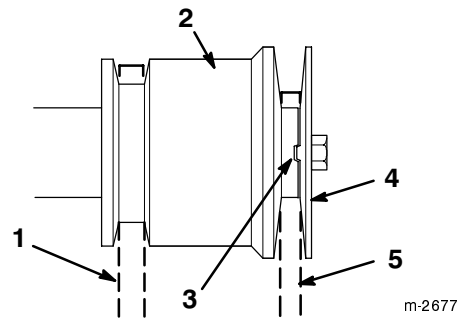

Figure 28
Note: Make sure not to pinch the auger/impeller drive belt (Fig. 28).
14. Install the engine pulley sheave, washer, lock washer, and crankshaft screw. Make sure that the indexing rib in the engine pulley sheave aligns with the indexing notch in the engine pulley (Fig. 28).
- Note:** Make sure that the indexing rib in the engine pulley sheave aligns with the indexing notch in the center engine pulley. Also, make sure not to pinch the drive belt (Fig. 28).